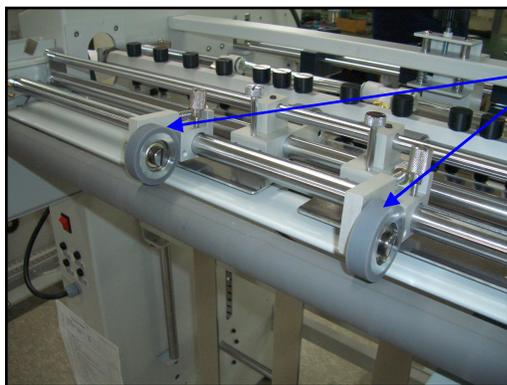

Figure 32
7. Attach the feed tire to the feed arm using one of the thumbscrews from the rack, (Fig. 32). If necessary, install two secondary feed tires